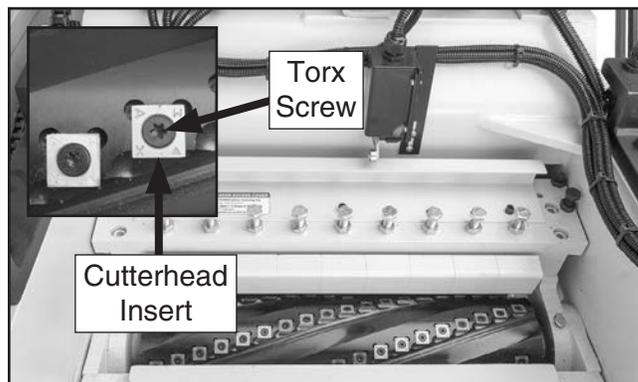

Figure 55. Location of upper cutterhead inserts and Torx screws.
5. Thoroughly clean away all sawdust or debris from top of insert, Torx screw, and surrounding area (see **Figure 55**).